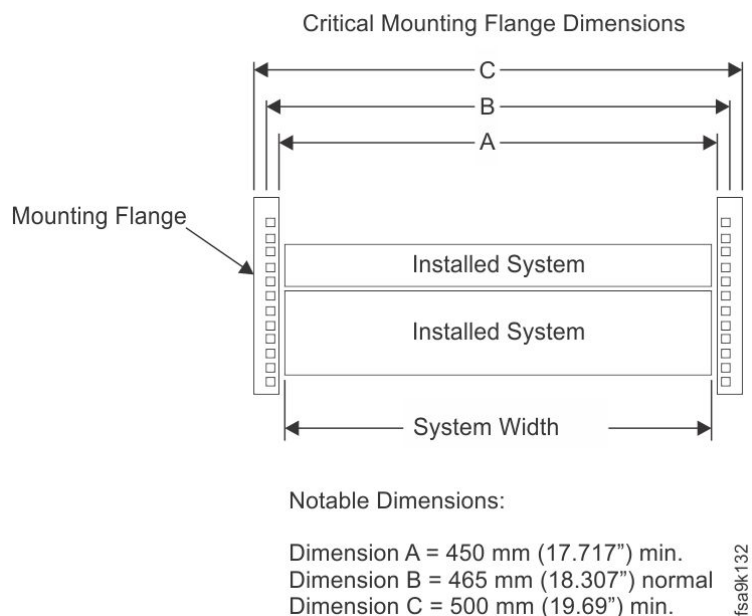

Figure 9. Critical mounting flange dimensions
- The front rack opening must be 535 mm (21.06 in.) wide for dimension C (the width between the outsides of the standard mounting flanges, see Figure 9 on page 16). The back rack opening must be 500 mm (19.69 in.) wide for dimension C (the width between the outsides of the standard mounting flanges).